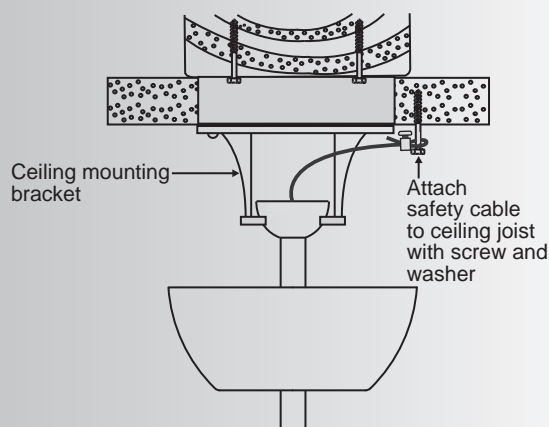

Fig. 14
**Step 1.** Attach the provided wood screw and washers to the ceiling joist next to the mounting bracket but do not tighten. (Fig. 14)